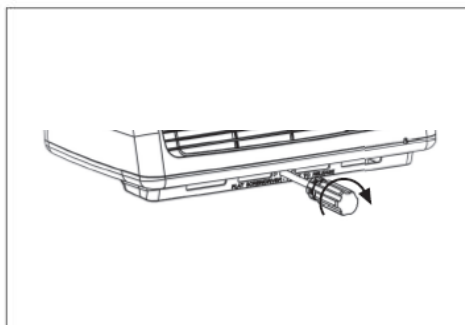

Figure 2.
- To remove the heater from the Wall Mounting Base insert a blade screwdriver into the hole located below the middle of the outlet grille. Rotate the screwdriver until the clip releases. Then while holding the heater, gently push up with the screwdriver sliding the heater off the Wall Mounting Base. (See Figure 2.)